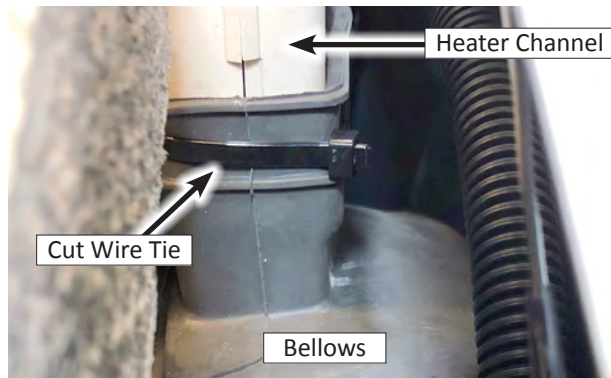

Figure 3
11. Cut the wide wire tie that secures the heater channel assembly to the bellows (see Figure 3).